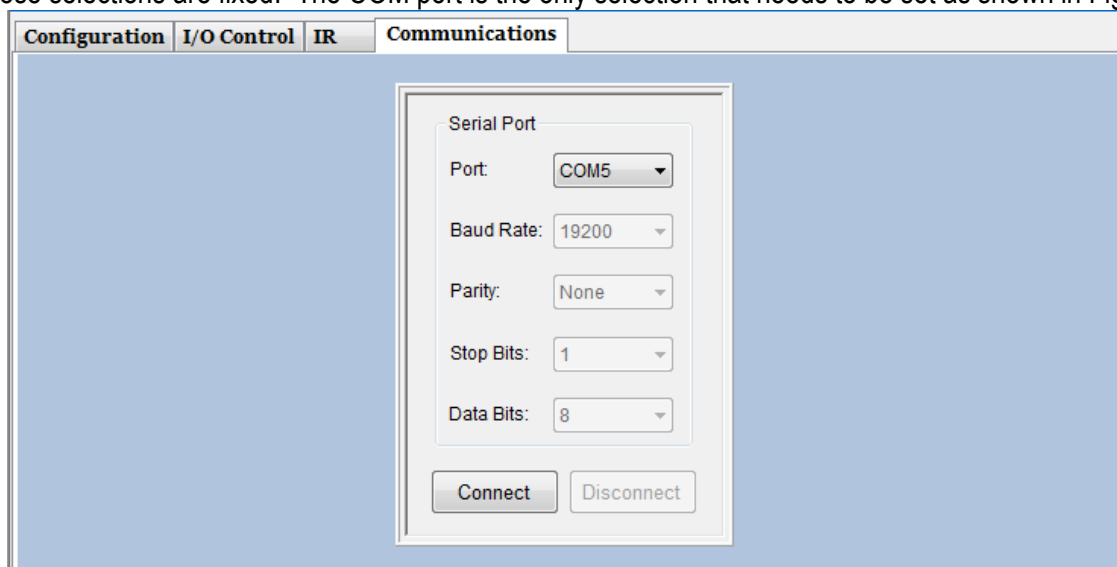

Figure 14 – Communications
- Since GUI communicates with the HR-4P's serial port at a fix baud rate of 19200, no parity, 1 stop bit, and 8 data bits, those selections are fixed. The COM port is the only selection that needs to be set as shown in Figure 14.